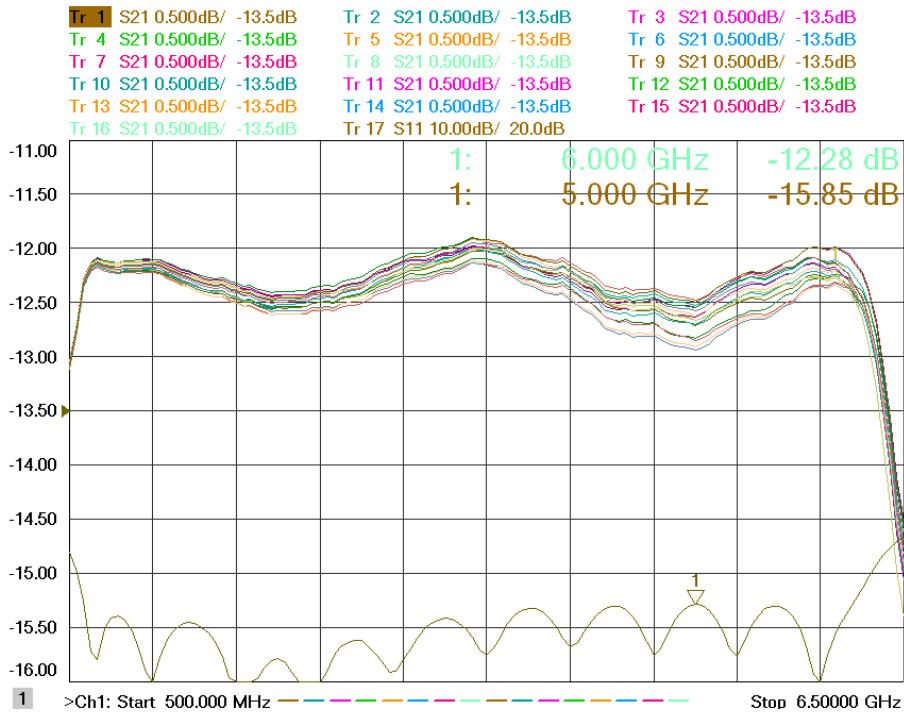

Figure 4-5. Typical Sixteen-Way Combiner Insertion Loss
- A typical Sixteen-Way Combiner Insertion Loss and Combined Port Return Loss is shown in Figure 4-5. The unused port must be terminated when checking the Insertion Loss.